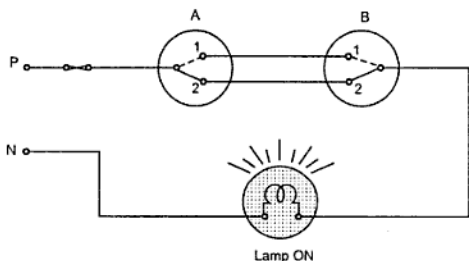

Fig. 8.14 ' ON ' position of lamp
When person changes position of switch A from (1) to (2) then lamp gets phase through switches A and B and it gets switched ON as shown in the Fig 8.14.